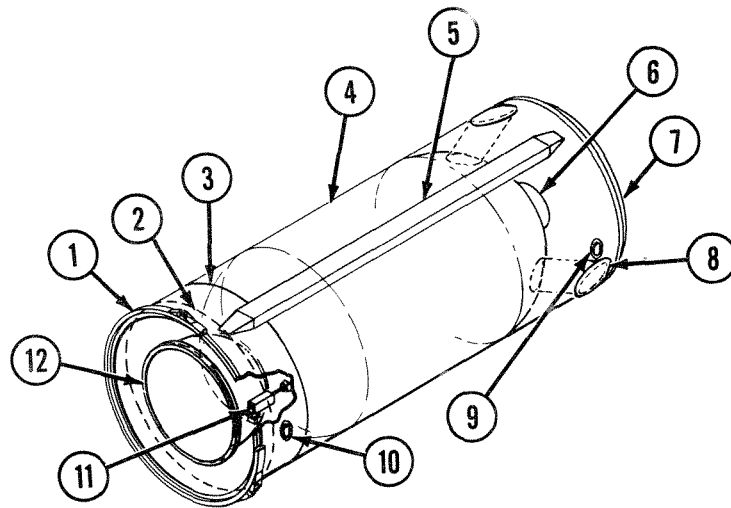

Figure 2-8. Second Stage Major Features
b. *Second Stage.* The two main assemblies of the second stage are the aft skirt assembly and rocket motor assembly. Figure 2-8 shows second stage major features.